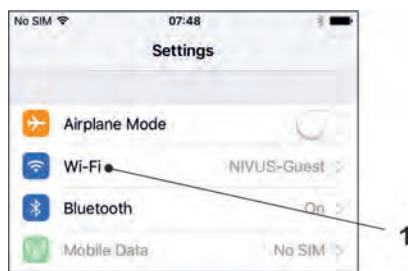

Fig. 30-12 WLAN symbol
3. Select WLAN (Fig. 30-12 Pos. 1).